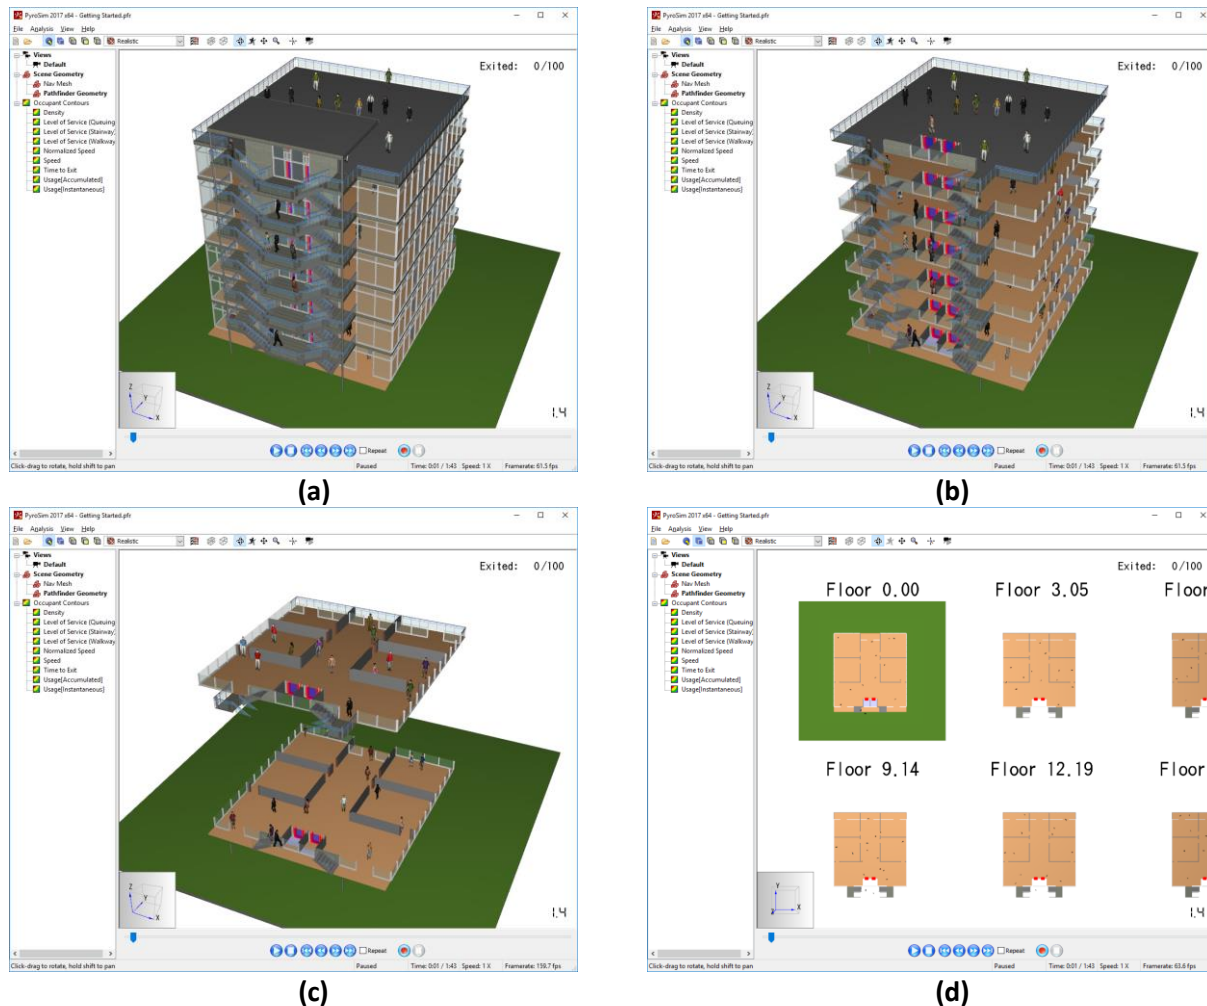

Figure 4-4: Multi-floor layout options using the Pathfinder Getting Started model
Some models are composed of several floors, causing each floor to obscure the one below it as shown in Figure 4-4 (a). The Results application provides a variety of options for viewing the model such that building contents can be easily observed. One option is to view the model with the floors stacked vertically but separated by a settable distance. Another option is to view the model with the floors lying in the XY plane so that they can all be viewed from overhead. Both options allow a wall clip-height to be specified and for certain floors to be selectively shown or hidden.
- **Vertical:** Stacks the floors vertically along the Z axis. When viewed in this manner, floors will appear naturally such that each floor is stacked on top of the one below it. The floors can then be separated by empty space to more easily view inside the model as shown in Figure 4-4 (c). The **Floor Separation** controls the amount of space between floors.
- **Horizontal:** Lays out the floors in a square grid and in one plane. They will appear in order from left to right and top to bottom such that the lowest floor is in the upper left corner and the highest floor is in the lower right corner. When laid out in this manner, the **Floor Separation** will affect the gap between floors in both the X and Y directions. An example of this type of layout is shown in Figure 4-4 (d). By default, labels appear above each floor so the floors can be easily identified, but these labels can be hidden by opening the **View** menu and deselecting **Show Labels**.
Wall clipping can be applied to shorten the walls of each floor yet maintain a sense of obstruction placement as shown in Figure 4-4 (b). As shown in this figure, more of the model can be seen than in Figure 4-4 (a). To enable wall clipping, first check **Clip Walls** in the **Floor Settings** dialog. Then set **Wall Height** to the desired value. The geometry on every floor will be clipped above the floor's Z location plus the wall height.